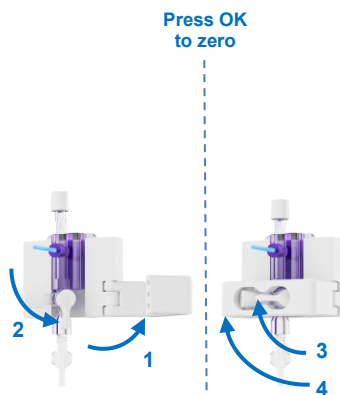

Figure 25 Zeroing of the pressure sensor
- Make sure to check that no air bubbles accumulated at the flow sensor. Open the aluminum clip to release the lid (Figure 25). Open the lid and check for air bubbles. Remove any air bubbles by manipulating the tubing. Push the lid to close the sensor.
- Open the bracket of the pressure sensor holder to access the valve on the pressure sensor (Figure 25; step 1). As instructed on the display (see below), turn the valve on the pressure sensor downwards to open the sensor to measure atmospheric pressure (Figure 25; step 2).
- Turn the pressure sensor valve back to horizontal position (Figure 25; step 3) and close the bracket of the pressure sensor holder to protect the valve from unintentional opening (Figure 25; step 4). Press OK on the Pump Unit to continue.
- In case the Liver Assist cannot determine if the pressure sensor is appropriately connected to the perfusion circuit, check if the position of the valve of the pressure sensor is in the horizontal position (Figure 25, step 3). Press OK if the valve of the pressure sensor is in the horizontal position.